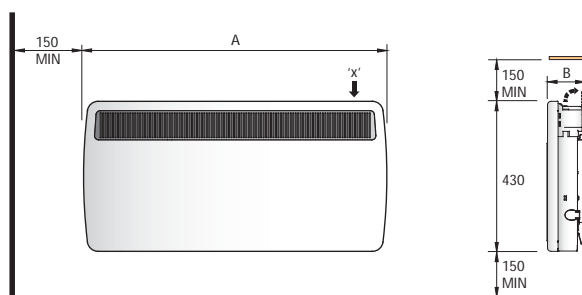

Fig. 1
**IMPORTANT** – The wall brackets supplied with the appliance must be used. The heater should be positioned observing the minimum clearances stated around the heater - see **Fig. 1**.
The controls cover (see 'x' in **Fig. 1**) on your heater has a latch which may be locked shut if desired using a small bladed screwdriver - see **Fig. 3**.